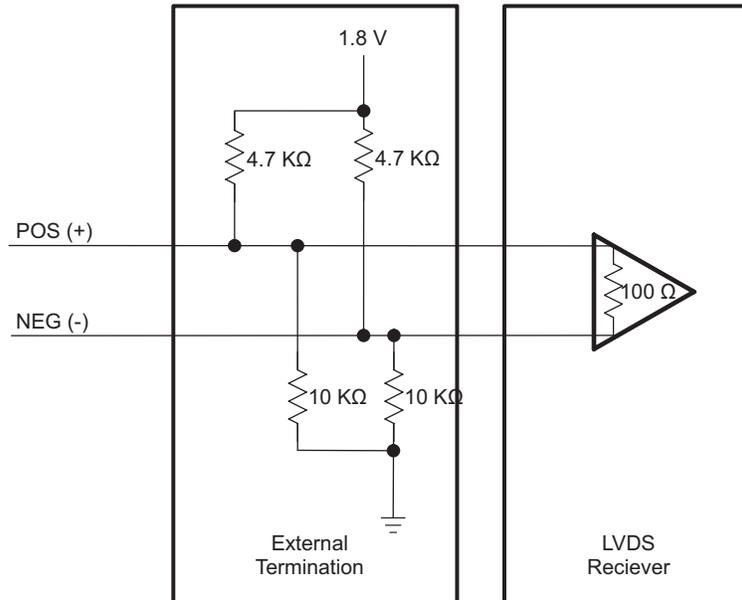

Figure 4. External Terminations: Receiver With $100\ \Omega$
- If the LVDS receiver includes the $100\ \Omega$ termination but no biasing, use the external terminations shown in Figure 4.